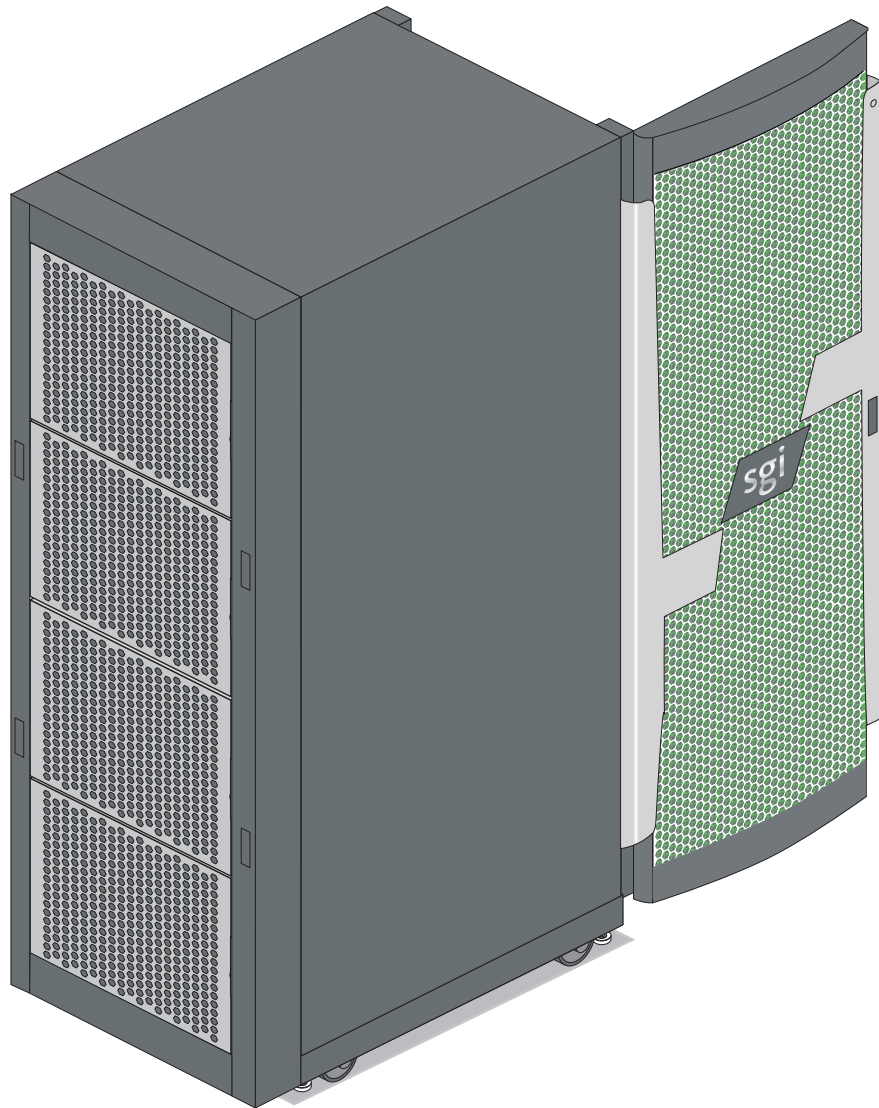

Figure 4-2 Optional Water-Chilled Door Panels on Rear of ICE XA D-Rack
- **Front and rear door.** The front door is opened by grasping the outer end of the rectangular-shaped door piece and pulling outward. It uses a key lock for security purposes that should open all the front doors in a multi-rack system (see Figure 4-2 on page 48). A front door is required on every rack.
Note: The front door and rear door locks are keyed differently. The optional water-chilled rear doors (see Figure 4-2 on page 48) do not use a lock.